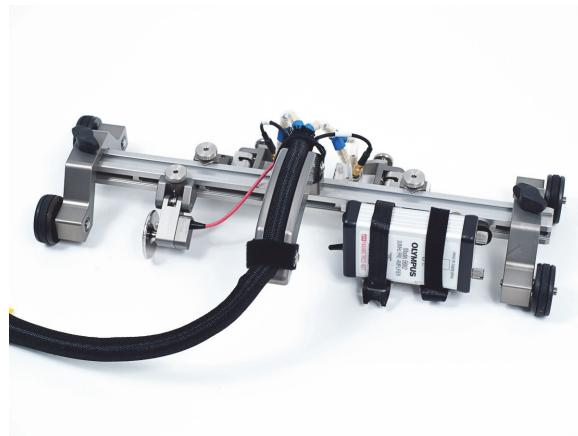

Figure 1-23 Preamplifier installed
6. Install the preamplifier in the bracket, and then secure the preamplifier using the hook and loop strips (see Figure 1-23 on page 36).